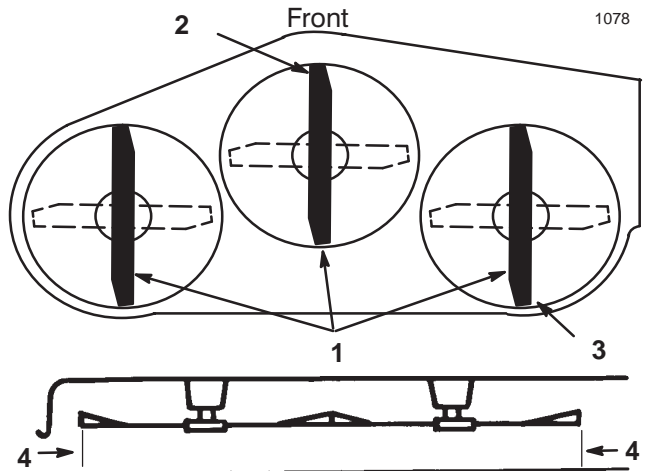

Figure 42
5. Set the height-of-cut at 3 inch (76 mm) and carefully rotate the blades so they are facing front to rear (Fig. 42).
6. Measure between the tip of the front blade (Fig. 42) and the tip of the rear blade to the flat surface. If the front blade tip is not 1/16–5/16 inch (1.6–7.9 mm) lower than the rear blade tip, adjust the front trunion rods.
9. After adjusting both trunion rod yokes evenly, secure the yokes with the hairpin cotters. Check the front-to-rear level again. Continue adjusting the yokes until the front blade tip is 1/16–5/16 inch (1.6–7.9 mm) lower than the rear blade tip (Fig. 42).